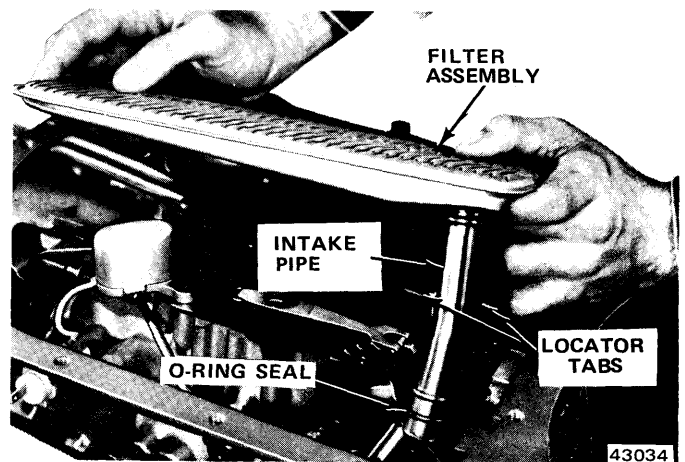

Fig. 7-142 Installing Oil Filter and Intake Pipe
(1) Install case-to-intake pipe O-ring seal on intake pipe.
(2) Install replacement filter on intake pipe. Install filter on end of intake pipe marked "filter."
(3) Install assembled filter and intake pipe and install filter-to-control valve retainer bolt (fig. 7-142).
(4) Position oil pan gasket on case.
(5) Position oil pan on case and install oil pan bolts. Tighten oil pan bolts to 12 foot-pounds torque.